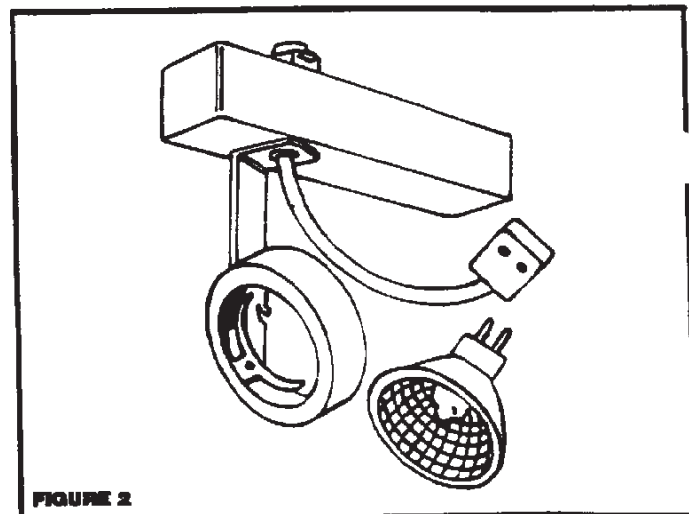

FIGURE 2
When using Halo-2 Lampholder with the Miniature Power-Trac System (L650, L651, L652, L653) adjustable contact must be in circuit #1 (DOWN) position. (Figure 2)
When using Halo-2 Lampholder with the Halo-2 Power-Trac System (L640, L641, L642, L643) adjust the contact position of each lampholder to the desired circuit—circuit #1 (DOWN) or to circuit #2 (UP). (Figure 2,3)
STEP 3 Unplug lamp by pulling straight out. DO NOT TWIST! (Figure 2) DO NOT TOUCH THE BULB INSIDE THE LAMP REFLECTOR.